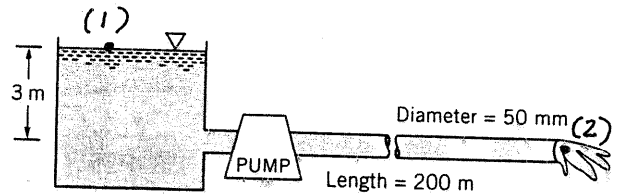

FIGURE P12.19
12.19 Water at 40 °C is pumped from an open tank through 200 m of 50-mm-diameter smooth horizontal pipe as shown in Fig. P12.19 and discharges into the atmosphere with a velocity of 3 m/s. Minor losses are negligible. (a) If the efficiency of the pump is 70%, how much power is being supplied to the pump? (b) What is the NPSHA at the pump inlet? Neglect losses in the short section of pipe connecting the pump to the tank. Assume standard atmospheric pressure.